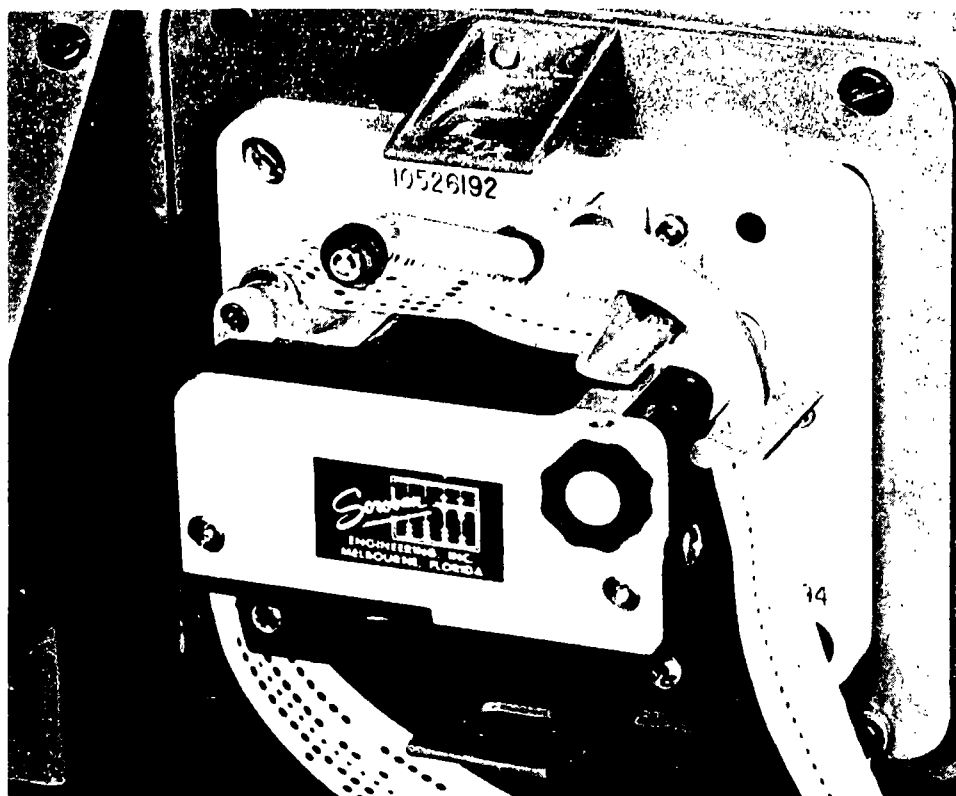

Figure 2-13. Tape in reader, armature clamp closed.
(2) Engage the tape sprocket holes with the reader sprocket and close the armature clamp (fig 2-13). Turn the sprocket knob a few times to insure that the tape is properly engaged. If the tape does not move freely, open the clamp and insure that the sprocket holes are engaged by the sprocket teeth. Reclose the clamp and turn the sprocket knob again to insure proper threading.
(3) Depress matrix buttons E4 (MET INPUT). Then depress the SM key to prepare the computer for keyboard input.